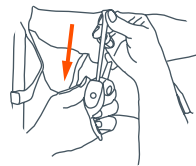
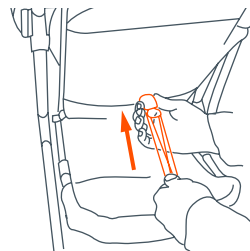

Fig. 9a
Fig. 9b
- To recline the seat:** loosen the strap through the buckle and adjust to the required recline position (Fig. 9a). To place the seat back in a more upright position, press upward on the seat back with one hand while pulling the strap through the buckle with the other (Fig. 9b).